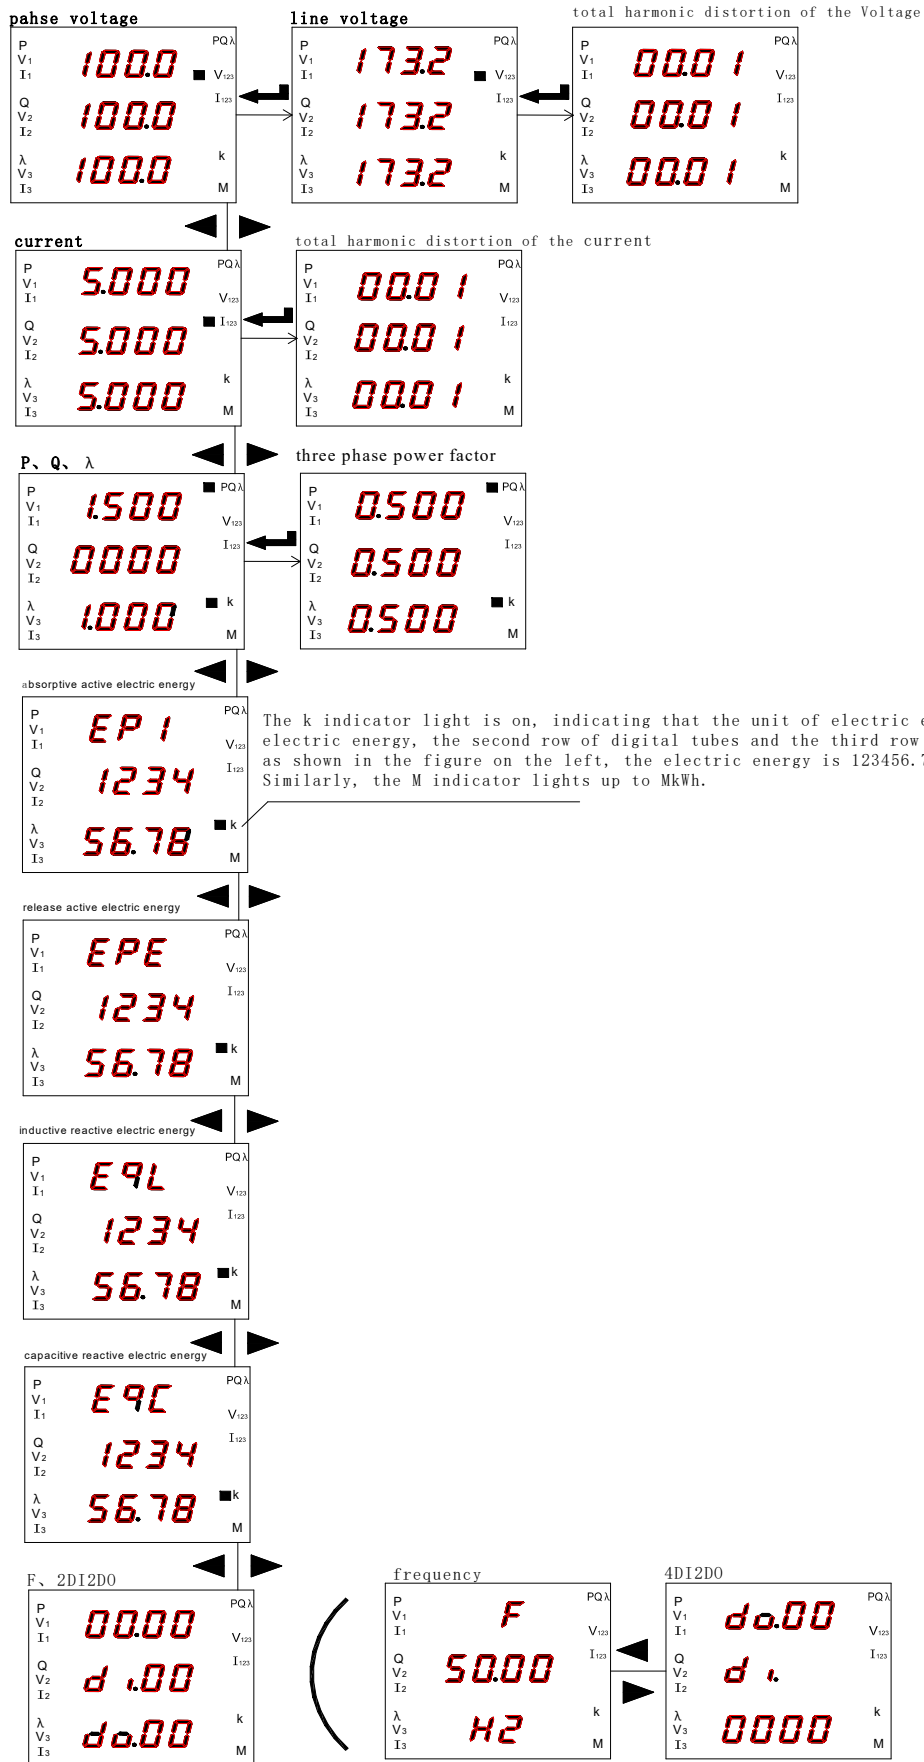

Figure 11
5.2.1 The operation steps to view power parameters are shown in Figure 11.